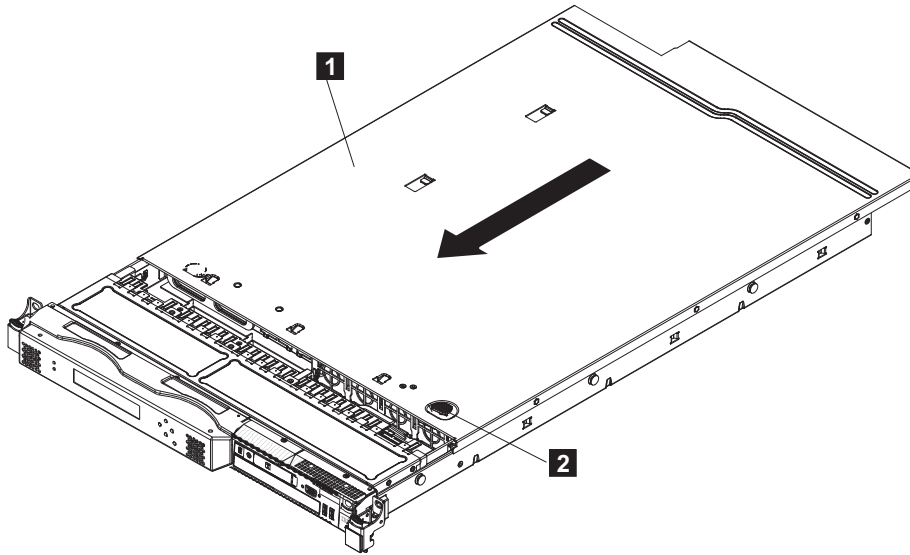

Figure 80. Replacing the SAN Volume Controller 2145-CG8 or 2145-CF8 cover
4. Slide the cover toward the front of the node, as shown in Figure 80 on page 101.